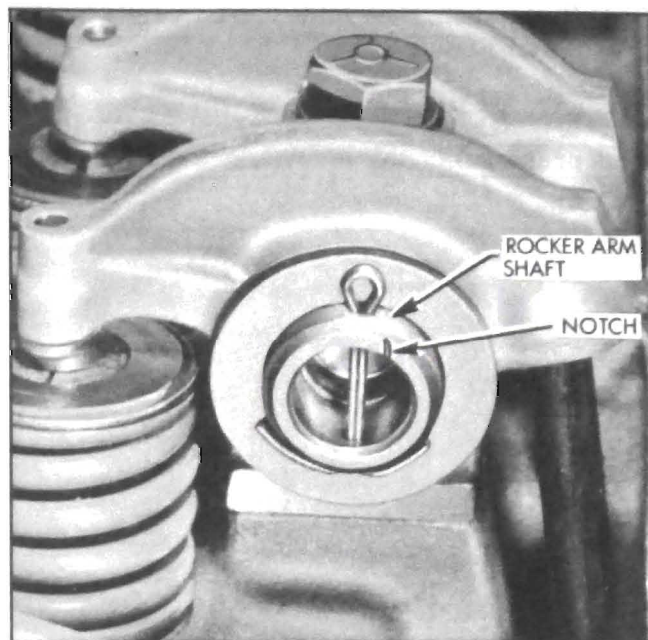

Figure 2-22—Rocker Arm Shaft End View
6. Install bolts with plain washers through the brackets and shaft so the notch on one end of the shaft is "up" toward the shaft bracket bolt heads. See Figure 2-22. With the notch "up" the oil holes in the shaft are correctly positioned with respect to the valve rocker arms.